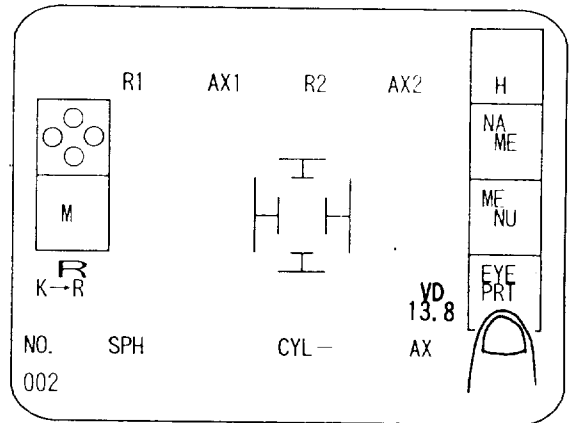

Figure 3-17
- ③ The $\begin{matrix} \text{EYE} \\ \text{PRT} \end{matrix}$ key will appear in the lower right hand part of the screen (see Figure 3-17).